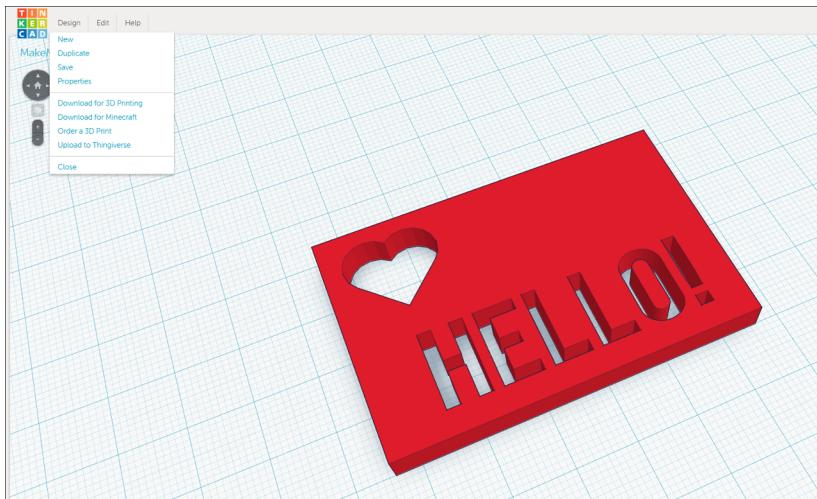

Figure 9-25. Drop-down menu when clicking on “Design”
7. Click “Design” in the top left of the Tinkercad window as shown in Figure 9-25.